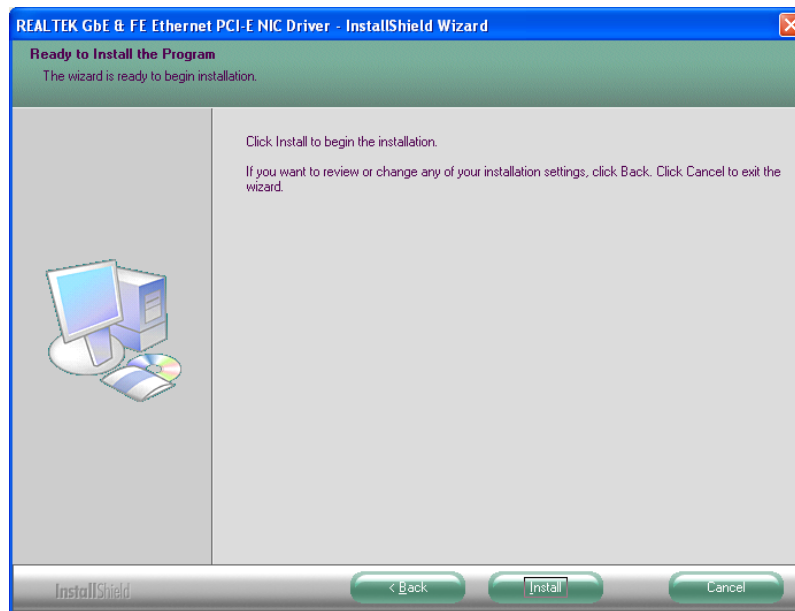

Figure 7-21: LAN Driver Welcome Screen
Step 5: The **Ready to Install** screen in **Figure 7-21** appears.